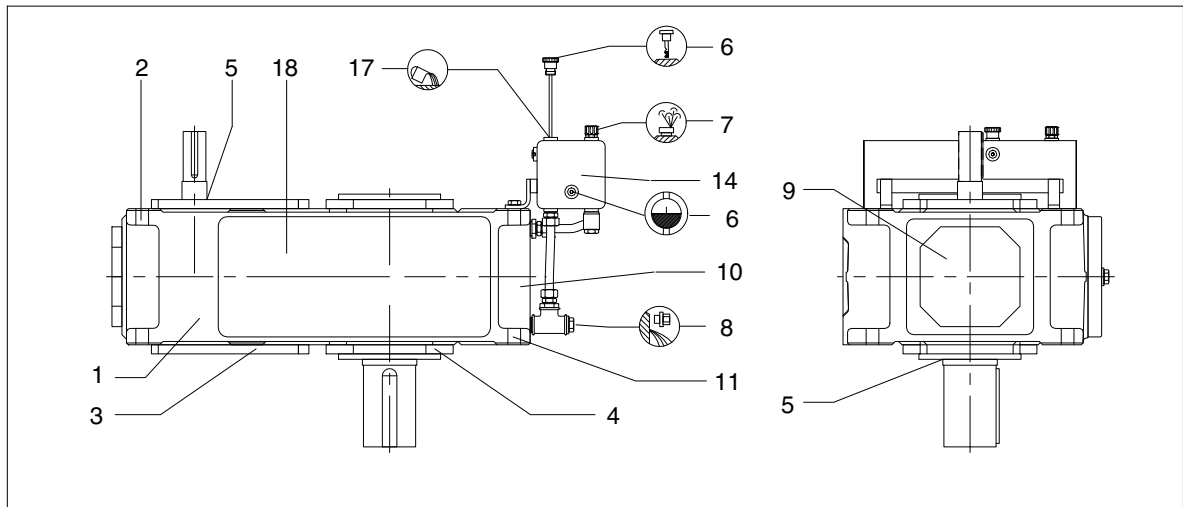
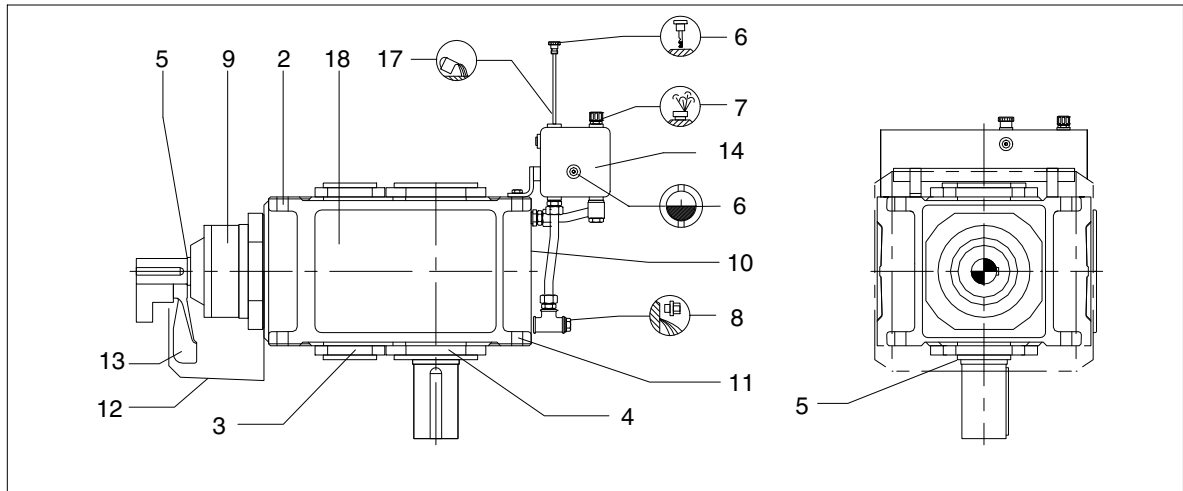

Fig. 10: Gear-unit features on gear units type H..V with oil-equalising tank
Fig. 12: Gear-unit features on gear units type B..V with oil-equalising tank
- Unscrew and remove oil-filler plug (including air filter or wet-air filter on the gear unit or the dipstick on the oil-equalising tank) (see figs. 10 to 13, part 17).
- Version with oil-equalising tank (see figure 10 and figure 12)
When installed vertically, all teeth and bearings are submerged in oil. The extended space required for expansion of the oil is provided by an oil-equalising tank bolted-on (see figure 10 and figure 12 in item 5.1.1).